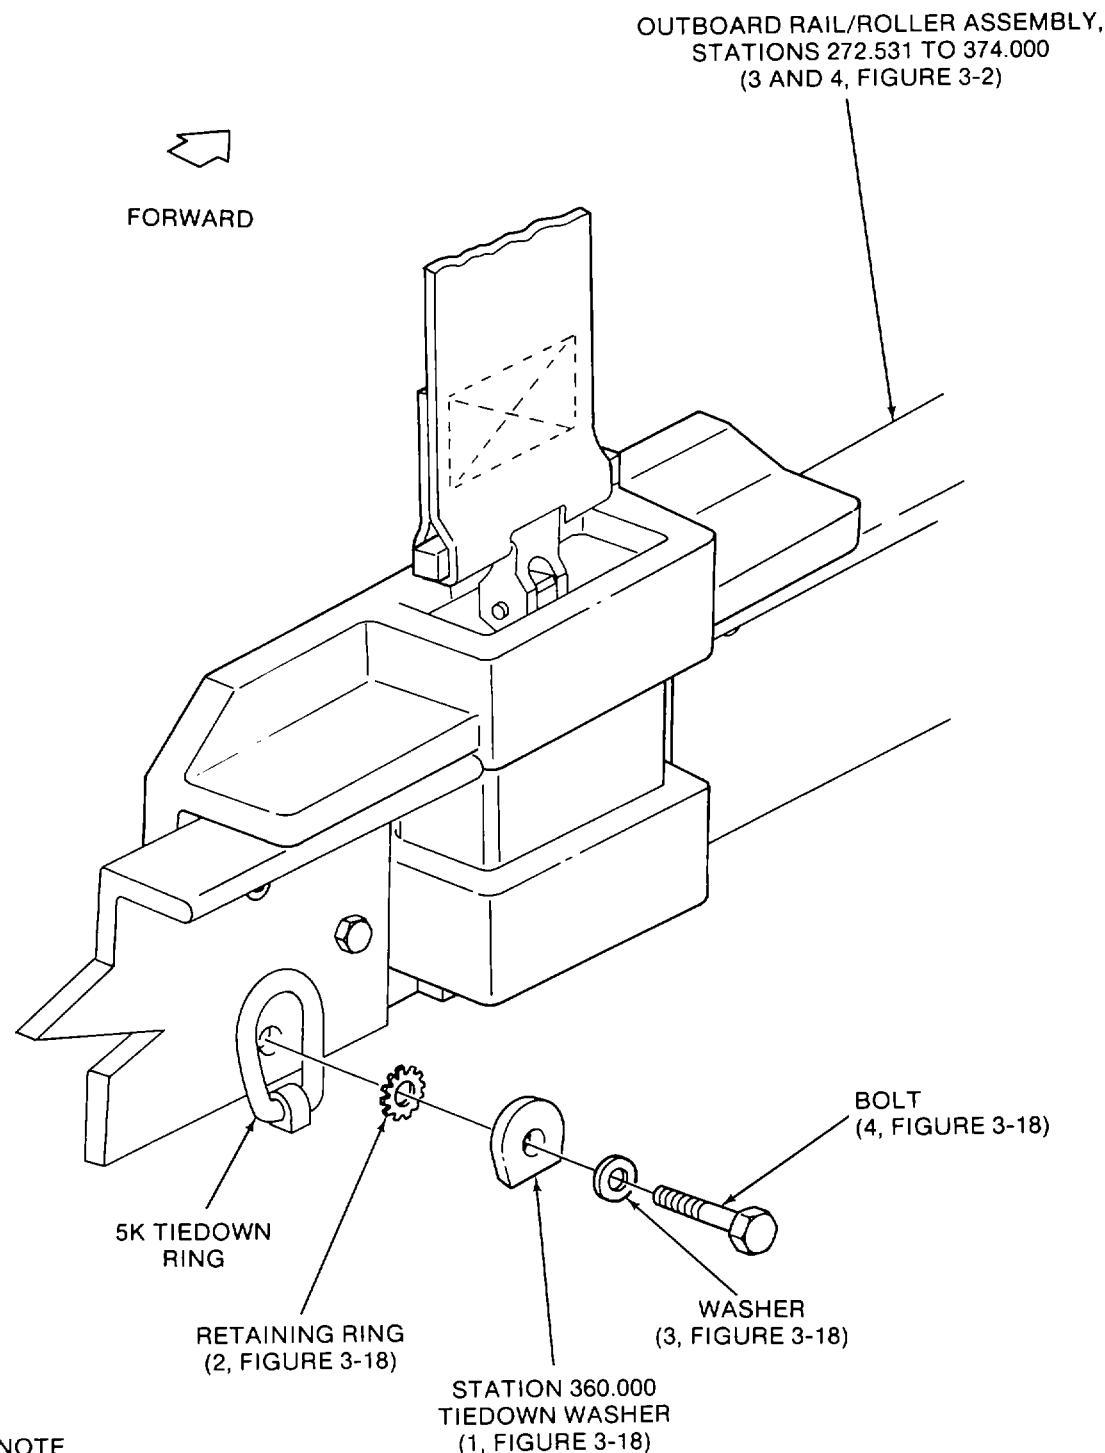

Figure 2-10. Connecting Outboard Rail/Roller Assemblies at Station 360.000
At station 360.000, use tiedown fitting assembly, station 360.000 (23) and not 5k tiedown fitting assembly (21). (See Figure 2-10.) Tiedown washer (1, Figure 3-18) should have the flat down.
(1) Connect two floor-mounted tiedown rings on the left and right sides at station 360.000 (23, Figure 3-2) to outboard rail/roller assemblies, stations 272.531 to 374.000 (3 and 4). Use tiedown fitting assemblies, station 360.000 (23) as shown in Figure 2-10.